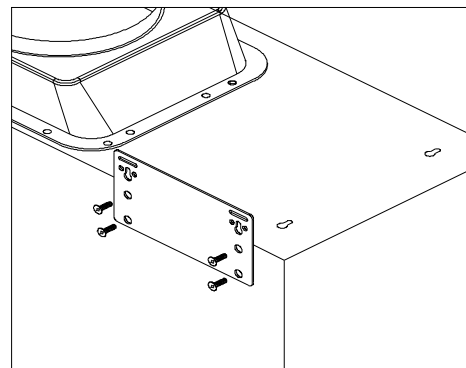

Figure 12
- Use eight (3/16" x 3/8") screws (provided) to attach the two hood-mounting brackets (provided) to the back of the hood. Refer to Figure 12.